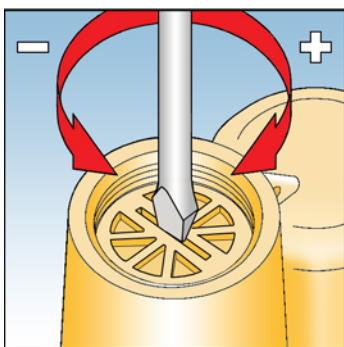

Fig. 10
33. Fully unscrew and remove the spring holder, See Fig. 10.